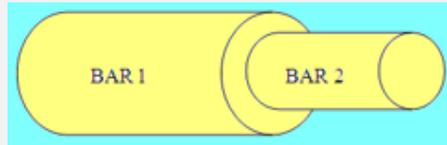

Figure 2.2. Series Composite Bars
- Figure 2.2 below shows a bar connected in series. Bars of this type has a different size of cross section.